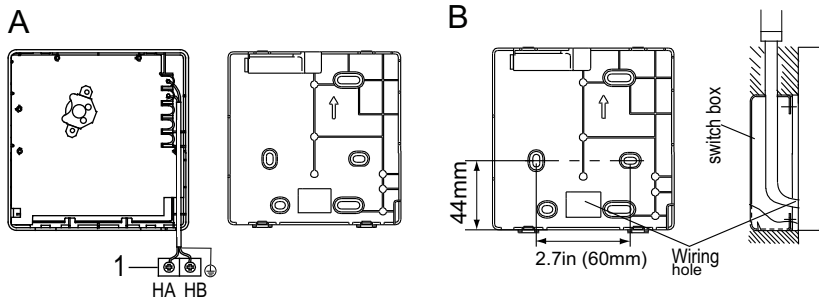

Fig. 7 — Wiring the controller
1. This manual provides the wired controller installation method. Refer to the wiring diagram (see Fig. 7 — on page 10) for guidance on wiring the wired controller to the indoor unit.